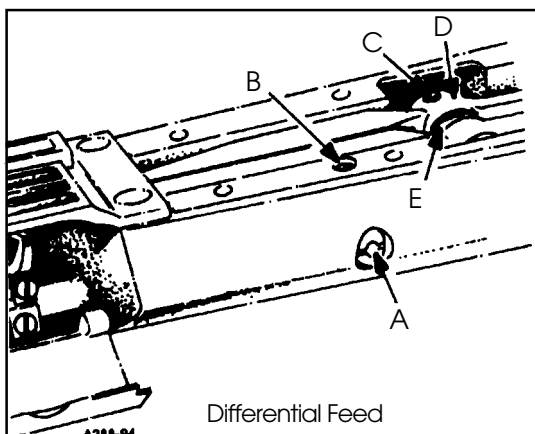
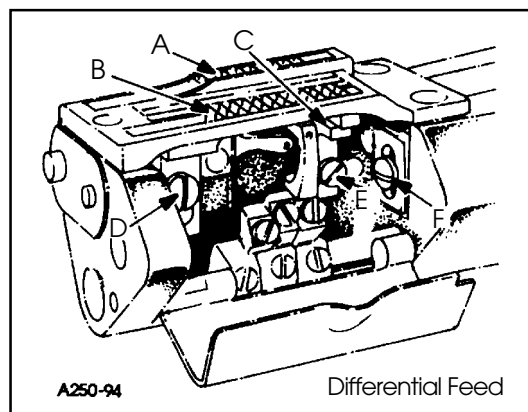

FIG. 10A
FIG. 11A
Before assembling the main and differential feed dogs, set the feed bar eccentric pin (A, Fig. 10A) located in the left side near center of cylinder, so that the slot in the head is in a horizontal position for the 35800DLU, DNU, and DZ style machines and turned counter clockwise to an approximate 45° for the 35800DWW style of machine. The pin can be used to slightly tilt both feed dogs if necessary. The feed bar pin is retained in position by set screw (B). Assemble differential feed dog (A, Fig. 11A), main feed dog (B) and throat plate. Both the main and differential feed dogs can be individually adjusted to height. Main feed dog (B) at its highest position, should be set to project above the throat plate, the depth of its teeth. If adjustment is necessary loosen screw (D) and move feed dog (B) up or down to attain correct setting. Feed dog support (C) should support front of feed dog.
NOTE: If eccentric pin (A, Fig. 10A) is used to tilt the feed dogs, make sure that the looper does not interfere with the rear needle guard and that the needle guard does not pinch the needle loops on the back side of the needles.
If adjustment is necessary loosen screw (E, Fig. 11A) in feed dog support (C) and move as required. Retighten screw (E). The differential feed dog (A) may then be leveled with main feed dog (B). If adjustment is necessary loosen screw (F) and move feed dog up or down as required. Retighten screw (F).
NOTE: Should the main feed dog require repositioning due to contact with the throat plate in its forward or rearward travel, loosen set screw (C, Fig. 10A) in main feed bar driving link (D), rotate main feed bar eccentric driving stud (E) as required. Driving stud (E) has a thin hexagon head with cutouts on two of the flats allowing movement by tapping with a sharp pointed tool, when wrench 21388AZ is not available. Whenever the main feed bar eccentric driving stud position has been changed, recheck rear needle guard setting, adjustment may be required. Retighten set screw (C). Position main feed dog support (C, Fig. 11A) flush against bottom of main feed dog (B), tighten support screw (E) securely.